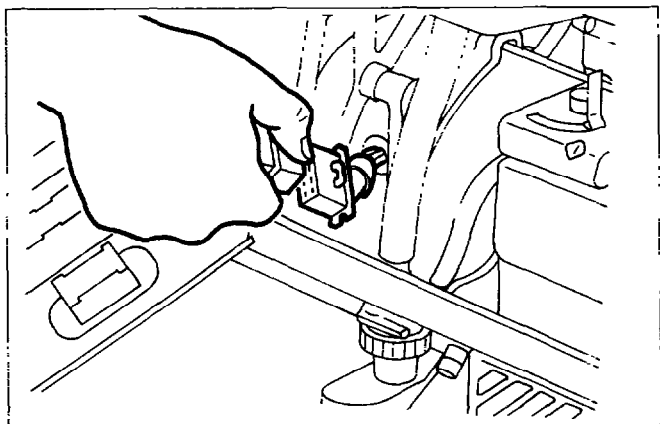

Fig. 10-39
- (1) Connect the wires drawn out from the stator to the wires from the control box. (See Fig. 10-39.)
- (2) Press the couplers until the locking hook engages securely.